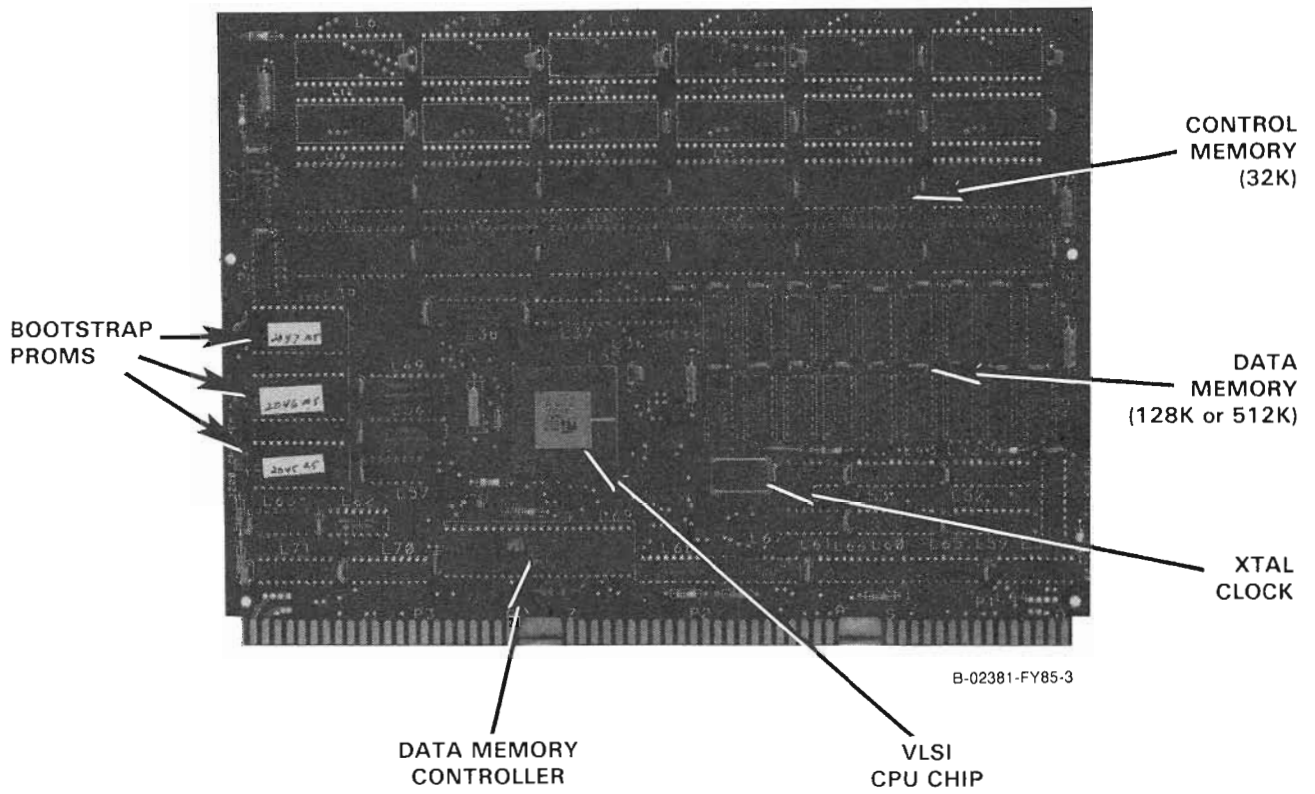

Fig. 2-1 CPU/Memory Board
The CPU/Memory Board contains 32K of Control Memory. This is accomplished by loading 12 memory chips in board locations L13 through L18 and L20 through L25 (ref. Fig. 2-1).
The Micro VP Operating System will support a maximum of 16 partitions and 13 system users. All 16 partitions may be allocated to a single user, or multiple-partition configurations may be created. Partition sizes are specified in 256 byte increments. The minimum size that may be specified for a partition is 1.25K (1280 bytes), with some portion of each partition accessible to all users (ref. 2.2.6). The guideline for maximum size, is that each partition must be defined wholly within the confines of one memory bank; no user partition is allowed to extend from one bank to another. The Micro VP-1 system contains 2 banks of user data memory, with each bank comprised of 64K of memory space, while the Micro VP-2 system has 8 banks of user data memory, also comprised of 64K each. (Ref. Fig. 2-1.)